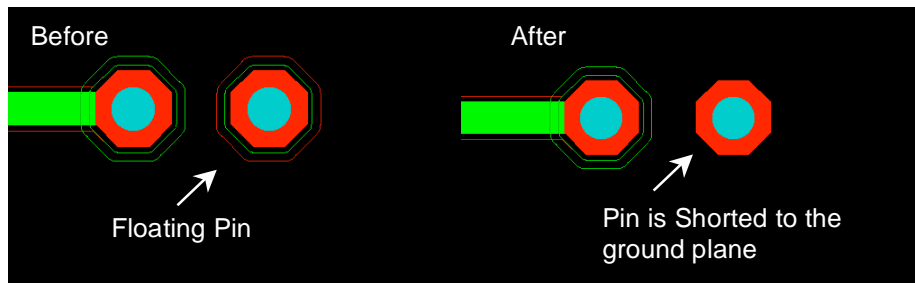

Figure 17: Grounded pin, before and after the insulation is removed.
8. The insulation must now be removed around the pins that should be shorted to the top and bottom ground planes. This is achieved by clicking the **FOUR** insulating layers and clicking *del* one-by-one. All four layers must be deleted (two of them are invisible until they are selected) as shown in Figure 17. Surface-mount pads only have two insulating layers.